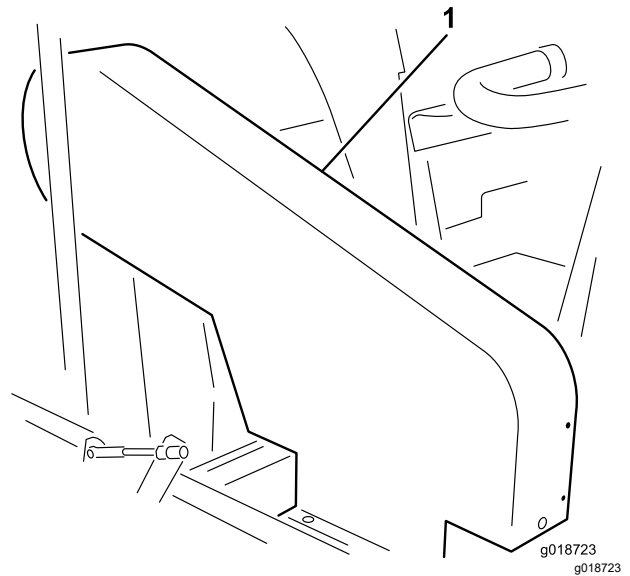

Figure 19
Note: It is not necessary to remove the upper belt guard (Figure 19) to check the belt tension. If you remove the belt guard, remove the 4 bolts, washers, and nuts securing the guard to the frame. Do not operate the machine without the guards in place.
Check the tension by pressing the belt at the midspan of the impeller and clutch pulleys with 18 to 22 N (4 to 5 lb) of force. The belt should deflect 1.3 cm (1/2 inch). If the deflection is incorrect, refer to Adjusting the Impeller Drive Belt \(page 24\). If the deflection is correct, continue normal operation (Figure 19).
Check the tension by pressing the belt at midspan of the jackshaft and clutch pulleys with 18 to 22 N (4 to 5 lb) of force. The belt should deflect 6 mm (1/4 inch). If the deflection is incorrect, refer to Adjusting the Jackshaft Belt \(page 25\). If the deflection is correct, continue normal operation (Figure 19).
1. Remove the 4 bolts, washers and nuts securing the upper shroud to the frame (Figure 19).